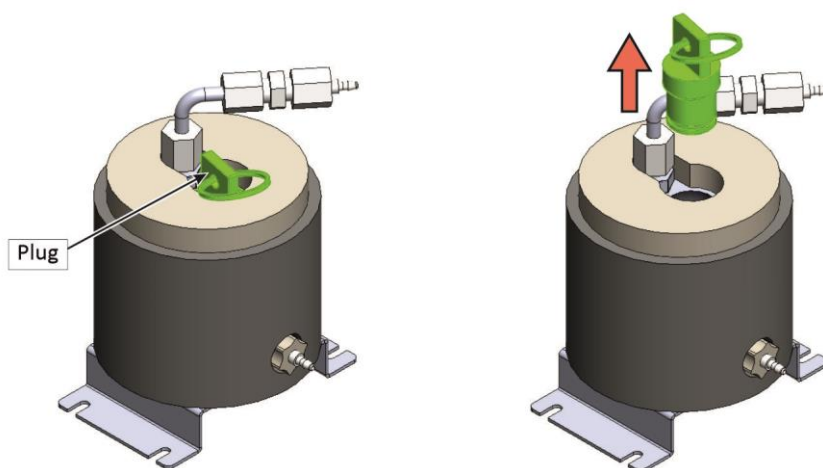

Figure 168 – Permeation Tube Removal
2. Refer to Figure 168. Unscrew the white Teflon plug on top of the permeation oven and then pull the split ring to fully remove the plug.